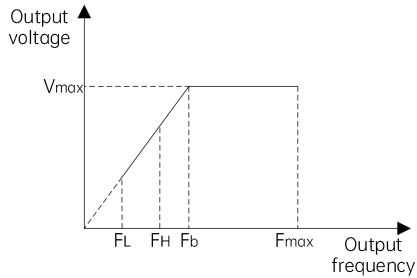

Fig. 7-6 Frequency limit parameter definition
The maximum output frequency is the highest frequency allowed by the drive, such as  $F_{max}$  in Fig. 7-6;
The upper limit frequency is the highest frequency allowed in operation set by the user, such as FH in Fig. 7-6;
The lower limit frequency is the lowest frequency allowed in operation set by the user, such as FL in Fig. 7-6;
Fb in Fig. 7-6 is the basic operating frequency, defined as the minimum corresponding output frequency when the drive outputs the highest voltage in the V/F mode.
- (1) The maximum output frequency, upper limit frequency and lower limit frequency should be carefully set according to the actual nameplate parameters of the controlled motor and the needs of the operating conditions.
- (2) The limit range of the upper and lower frequency has no effect on the JOG operation, but it will affect the auto-tuning of the motor (parameter identification).
- (3) In addition to the upper limit frequency and lower limit frequency, the output frequency of the drive during operation is also limited by the startup frequency, start frequency of DC braking at stop, skip frequency and other parameters.
- (4) Fig. 7-6 shows the relationship between the maximum output frequency, upper limit frequency, and lower limit frequency. Note the value ranges during setting.
- (5) The upper and lower frequency limits are used to limit the actual output frequency to the motor. If the frequency reference is higher than the upper limit frequency, the device will run at the upper limit frequency; if the frequency reference is lower than the lower limit frequency, the device will run at the lower limit frequency; and if the frequency reference is lower than the startup frequency, the device will run at zero frequency.